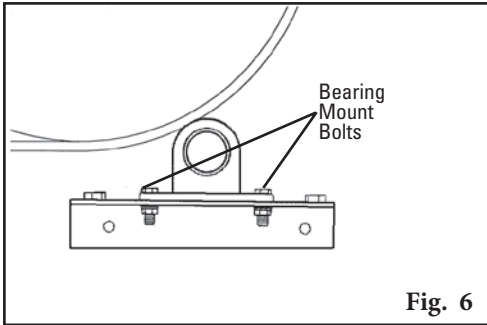

Fig. 6
8. **Install the pole.** Remove the two bearing mount bolts from one of the bearing mounts (Fig. 6). (If chute mount, remove from the side with access hole.) Slide the pole across the pulley and into the bearing mount on other side and allow tips to hang down. Install the removed bearing mount on the pole and reattach to the mounting bracket. Do not tighten; leave finger tight.
6. **Install the pole.** Remove the two bearing mount bolts from one of the bearing mounts (Fig. 6). (If chute mount, remove from the side with access hole.) Slide the pole across the pulley and into the bearing mount on other side and allow tips to hang down. Install the removed bearing mount on the pole and reattach to the mounting bracket. **NOTE:** Do not tighten; leave finger tight.